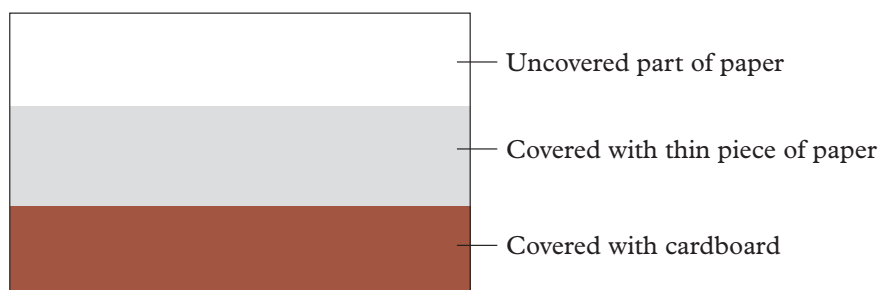

Fig 5.10: Experimental set up for determining the effect of light on silver bromide
3. Cover the lower part of the paper with cardboard as shown in the fig 5.10.